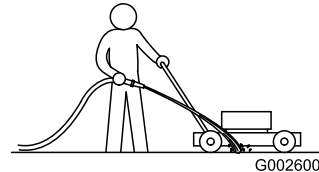

Figure 17
3. With the engine running and the blade engaged, spray a stream of water in front of the **right**, rear wheel (Figure 17).